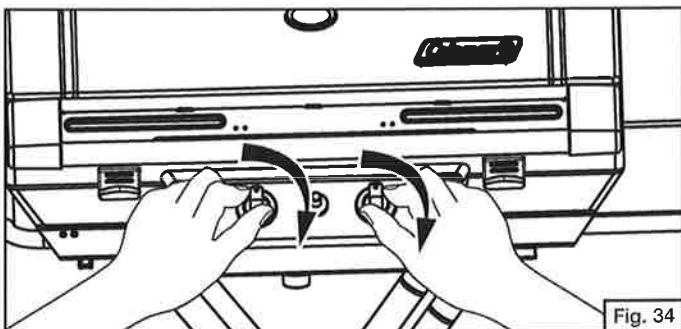

Fig. 34
- Turn both control knobs off. (Fig. 34)